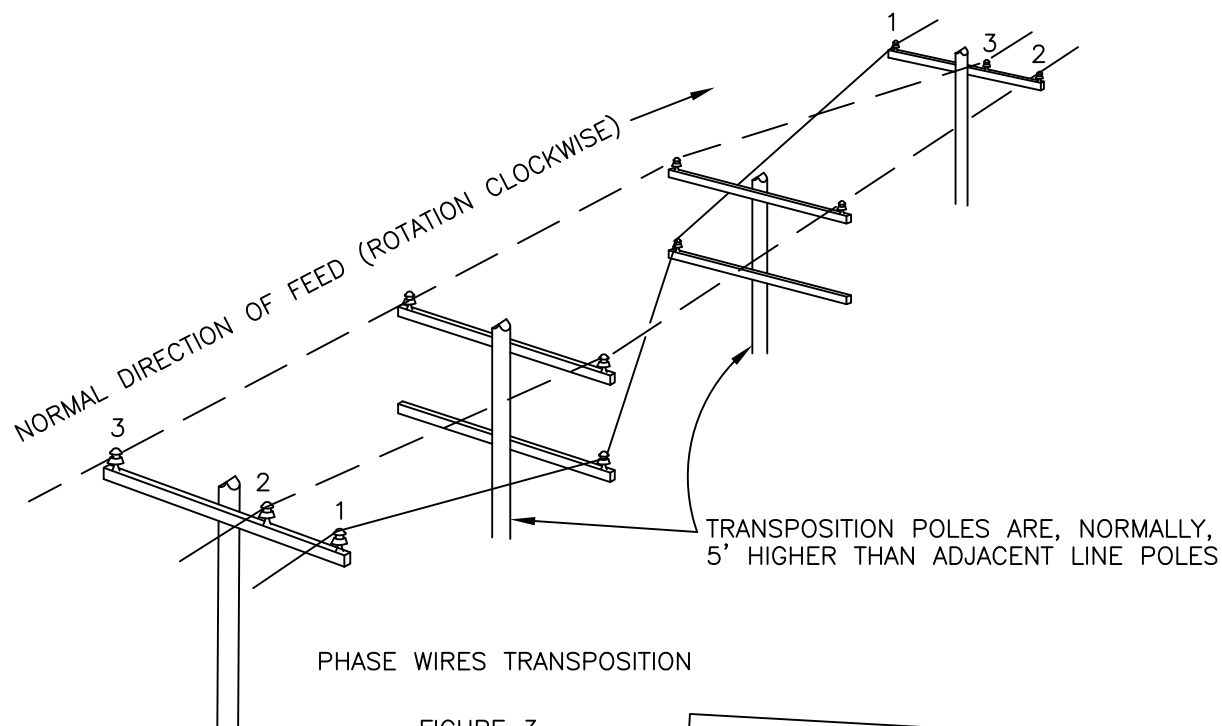

FIGURE 3
- (B) BUILDING FOUR WIRE, "PHASE WIRE ONLY" TRANSPOSITION, (FIG. 3), OR ADDING FOURTH WIRE (NEUTRAL) TO EXISTING TRANSPOSITION, REQUIRES NO DEVIATION.